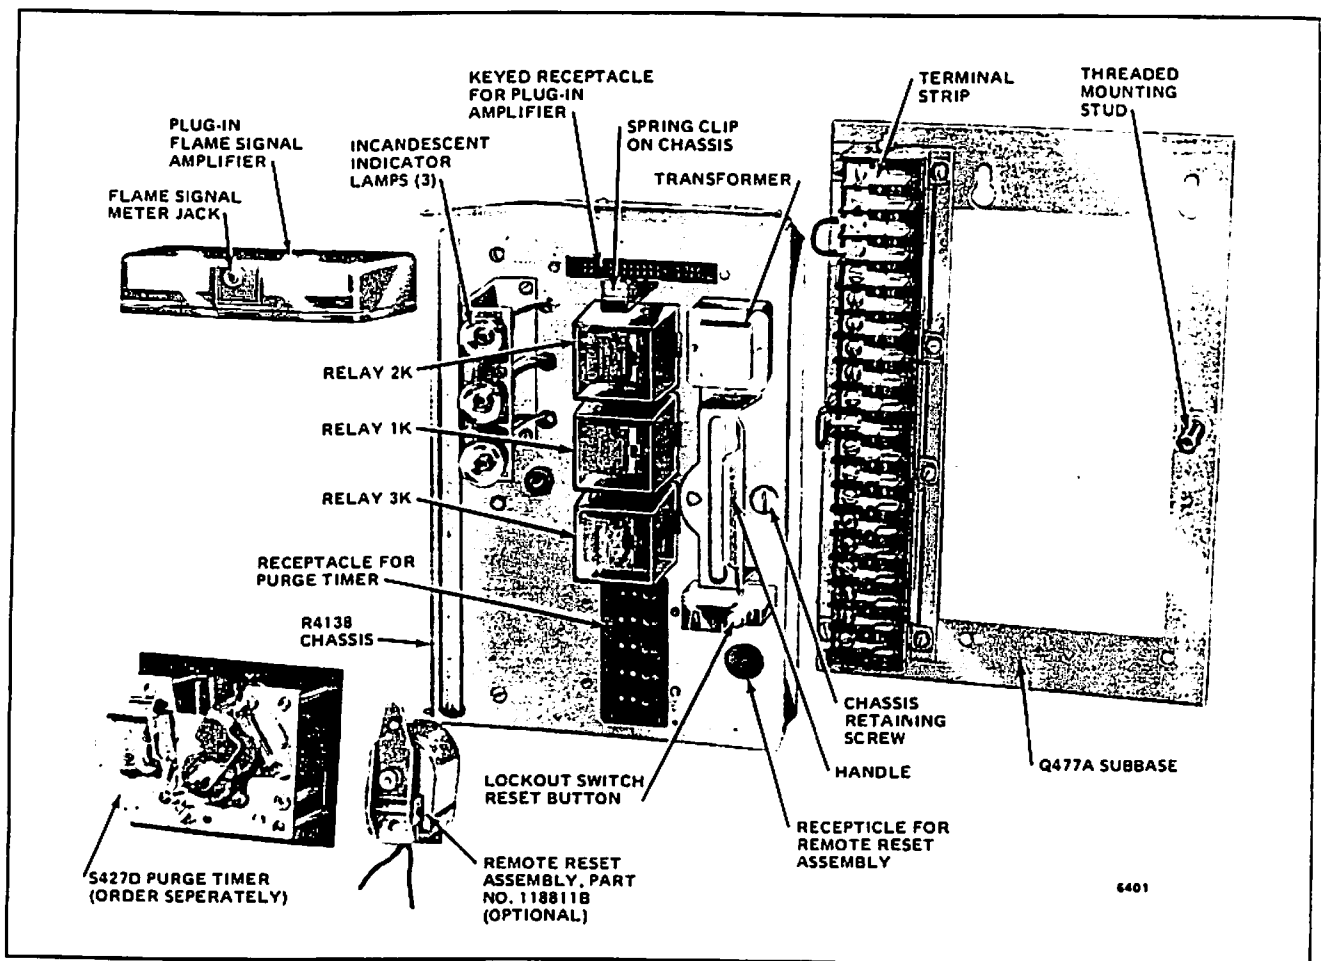

FIG. 21—COMPONENTS OF THE R4138C AND D INDUSTRIAL FLAME SAFEGUARD CONTROLS.
Refer to Figs. 4 through 8 for terminal locations, and to Fig. 21 for locations of component parts.
9. Lockout switch is reset (push in lockout switch reset button, Fig. 21).